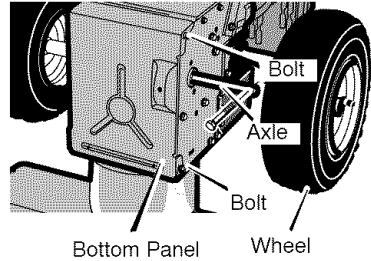

Figure 41
4. Remove the fasteners that secure the right **wheel**. Remove the **right wheel** from the **axle** (see Figure 41)